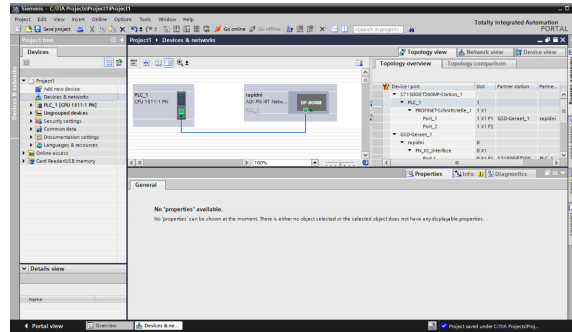

Figure 90. Topology View Window
2. Draw a line from the connected PLC port (**PLC_1**) to the connected device port (**rapidni**) (see Figure 90).